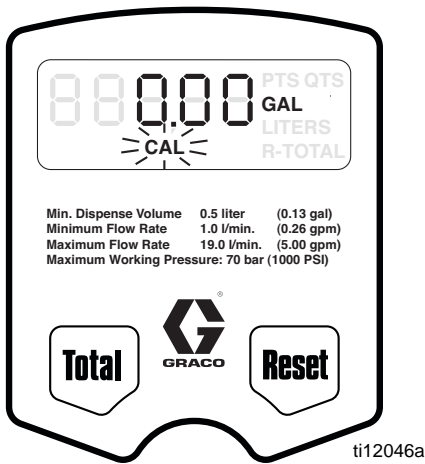

FIG. 13
- c. Press and hold Reset button again to display Calibration Menu. When this menu is displayed CAL blinks on the screen (FIG. 13).
Calibration (FIG. 13)